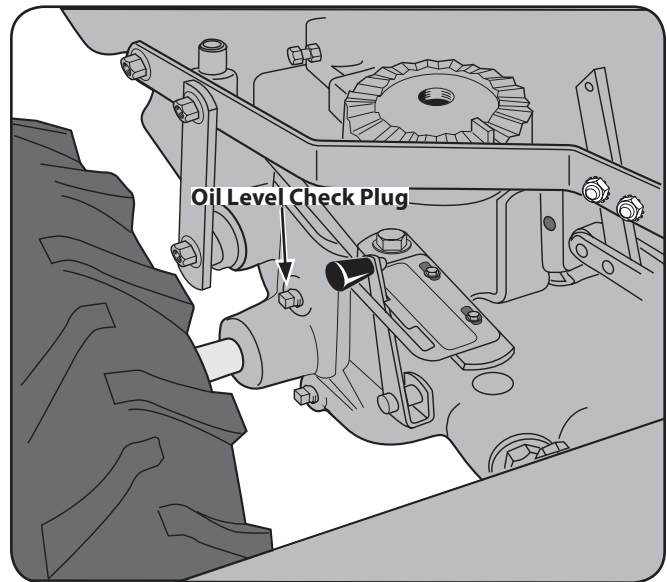

Figure 6-6
4. Use a $\frac{3}{8}$ " wrench to remove the oil level check plug on the left side of the transmission housing. See Fig. 6-6.
- Remove dipstick from tine attachment. See Fig. 6-6.